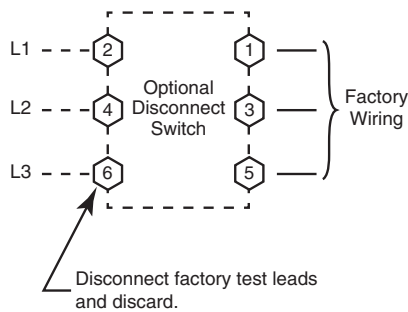

Fig. 17 — Power Wiring Connections
If equipped with optional powered convenience outlet: the power source leads to the convenience outlet's transformer primary are not factory connected. Installer must connect these leads according to required operation of the convenience outlet. If an always-energized convenience outlet operation is desired, connect the source leads to the line side of the unit-mounted disconnect. (Check with local codes to ensure this method is acceptable in your area.) If a de-energize via unit disconnect switch operation of the convenience outlet is desired, connect the source leads to the load side of the unit disconnect. On a unit without a unit-mounted disconnect, connect the source leads to compressor contactor C and indoor fan contactor IFC pressure lugs with unit field power leads (see Fig. 17).
Refer to Table 3 for maximum wire size at connection lugs. Use copper wire only. See Fig. 17 and 18.
The factory-installed option non-fused disconnect (NFD) switch is located in a weatherproof enclosure located under the main control box. The manual switch handle and shaft are shipped in the disconnect enclosure. Assemble the shaft and handle to the switch at this point. Discard the factory test leads (see Fig. 17).
All field wiring must comply with NEC and all local codes. Size wire based on MCA (Minimum Circuit Amps) on the unit informative plate. See Fig. 17 and the unit label diagram for power wiring connections to the unit power terminal blocks and equipment ground. Maximum wire size is #2 ga AWG per pole.
2. Install power lines to terminal connections as shown in Fig 17.